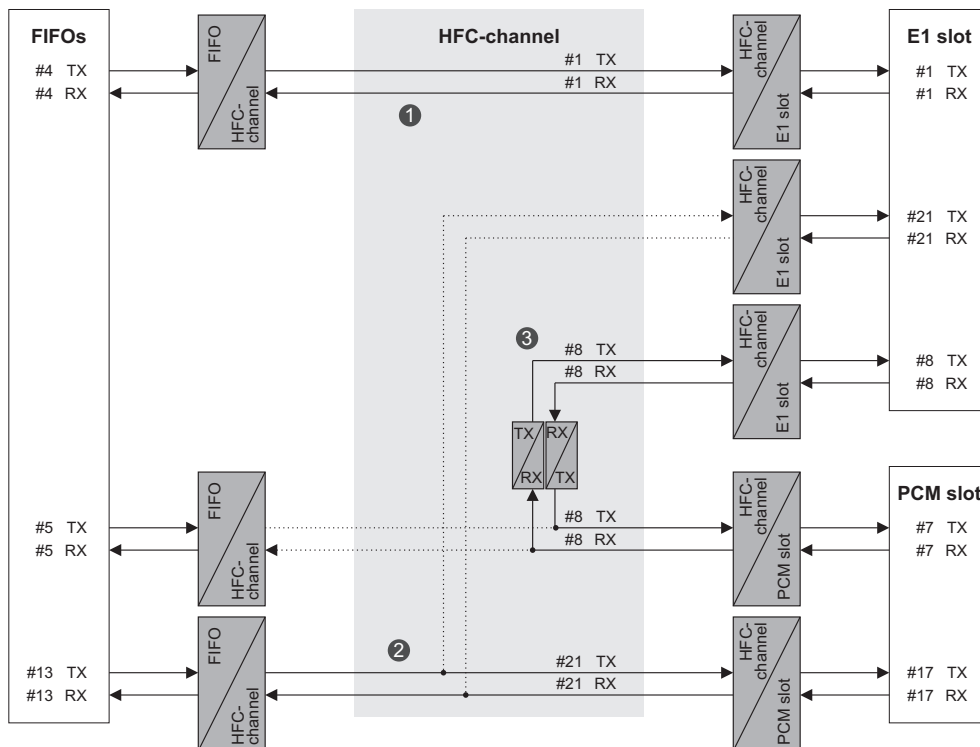

Figure 3.9: CSM example
The example for a *Channel Select Mode* configuration in Figure 3.9 shows three bidirectional connections (❶ FIFO-to-E1, ❷ FIFO-to-PCM and ❸ PCM-to-E1). The black lines illustrate data paths, whereas the dotted lines symbolize blocked resources. These are not used for data transmission, but they are necessary to enable the settings.